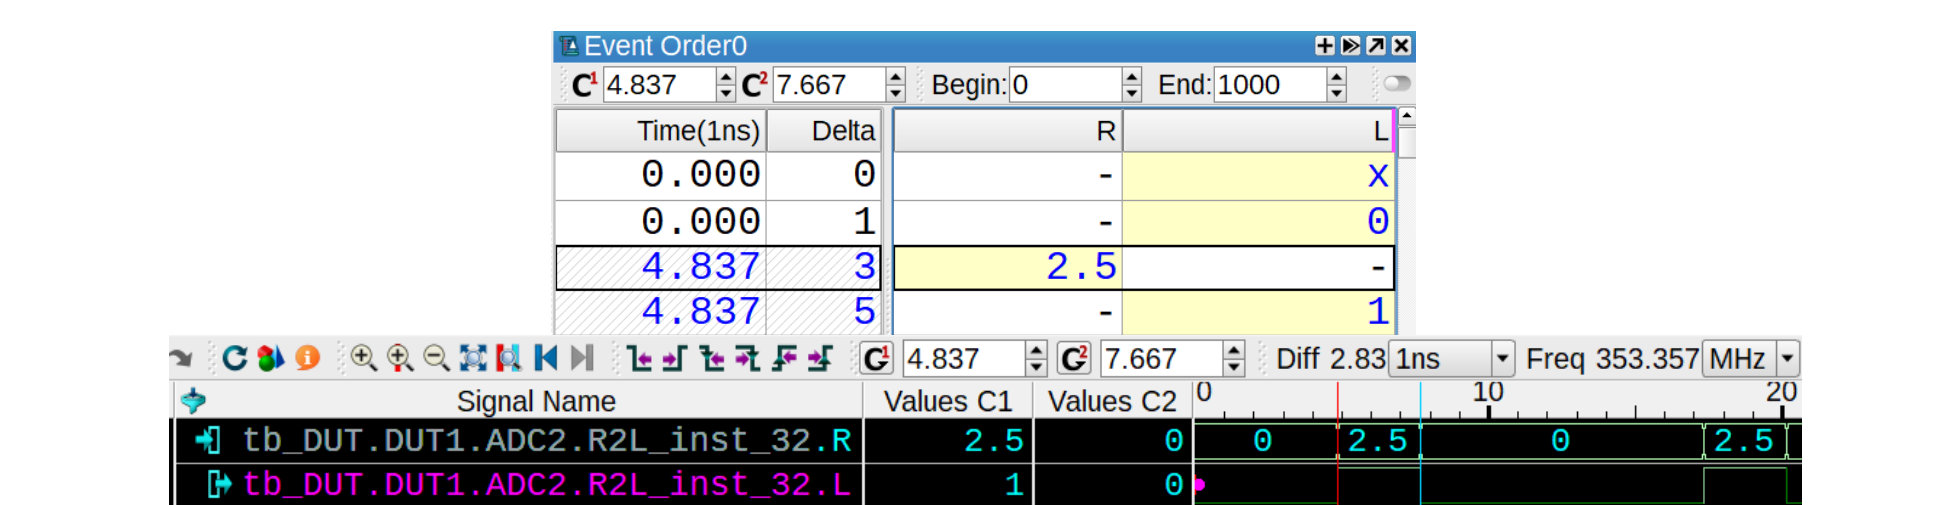

Figure 8: The event order for a 'real' variable
- Adding the BE input/output to windows like wave window or smart window for debugging event-driven orders will be very helpful as there are a lot of real values changed to logic '1', logic '0' and some can be changed to 'x' as shown in Figure 8.